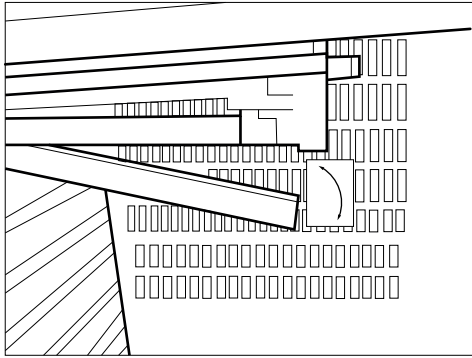

Figure 1a
1. Remove the plastic cover (your appliance will have a cover as shown in either figure 1a or 1b).